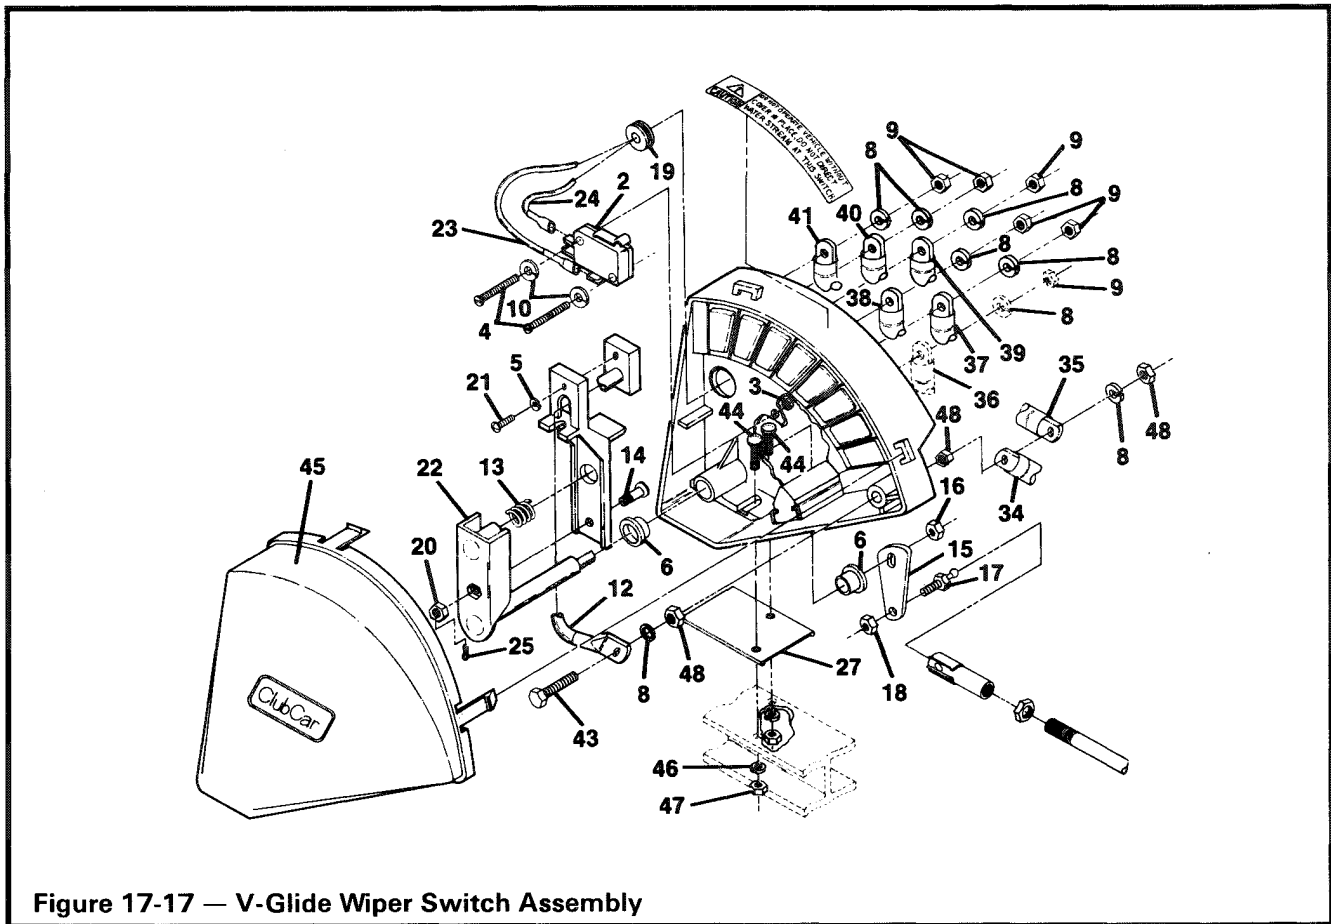

Figure 17-17 — V-Glide Wiper Switch Assembly
4. To adjust, remove spring cotter pin (25). Turn the adjustment screw (14) until the surfaces are parallel. The adjustment screw is located in the center of the V-Glide wiper switch arm (Figure 17-17).
5. After adjustment has been made, apply one drop of thread-locking compound, Loctite® 290, to adjustment screw (14) at hex nut (20) and install spring cotter pin (25) through hole in adjustment screw (Figure 17-17).
3. Remove the brass nut (48) and lockwasher (8) from brass bolt (43) and remove the two #6 white wires (34 & 35) (Figure 17-17).
4. Remove the second brass nut (48) from brass bolt (43) and remove the brass bolt (43) from the V-Glide wiper switch housing (1).
5. Remove the third brass nut (48) from the brass bolt (43).
6. Remove the screw (21) and lockwasher (5) to replace the wiper switch arm brush (12). Pull the arm assembly away from the fixed contacts and remove the wiper switch brush (12) by pulling the wire through the hole in the wiper switch arm.
7. Install the new wiper switch arm brush (12) into the wiper switch arm assembly.
8. Install the screw (21) and lockwasher (5) through the wiper switch arm and into the brush (12). Torque to 0.7/0.9 N-m (6-8 in.-lbs.).
9. Install the arm brush wire terminal (12) to the bolt (43) and install the brass nut (48) up against the arm brush wire terminal. Torque to 4/5 N-m (35-45 in.-lbs.).
10. Install the brass bolt (43) through the V-Glide wiper switch housing (1), and install the brass nut (48). Torque to 4/5 N-m (35-45 in.-lbs.).
11. Install the #6 white wire from the first resistor and the #6 white wire from the solenoid to the brass bolt (43) and install lockwasher (8) and brass nut (43). Torque nut to 4/5 N-m (35-45 in.-lbs.).
2. Remove the nuts (9) and lockwashers (8) (Figure 17-17) at the V-Glide wiper switch to remove the resistor wires from the V-Glide wiper switch.
3. Remove the cover (45) from the V-Glide wiper switch.
4. Disconnect the red wire (23) from the bottom driver's side contact of the F&R switch.
5. Disconnect the green wire (24) from the small post of the solenoid.
6. Remove the nuts (47) and lockwashers (46) from underneath the I-beam and remove the V-Glide wiper switch assembly from the frame. Remove shim plate (27).
7. Remove brass nut (48) and lockwasher (8) and remove the #6 white wires (34 and 35). Remove V-Glide wiper switch assembly from vehicle.